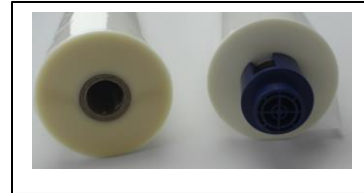

Figure 8
- M. **FILM ROLL SUPPLY:** The Ultima 65 can use both EZ Load and Standard roll laminating film (figure 8).